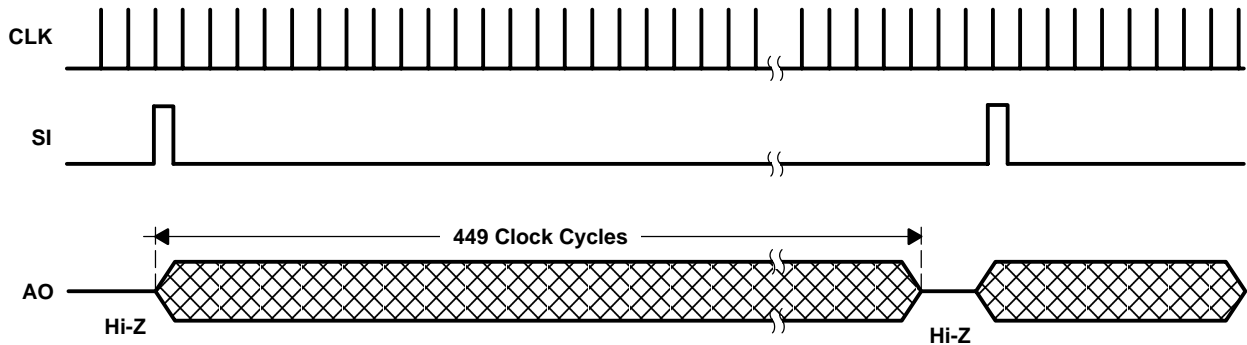
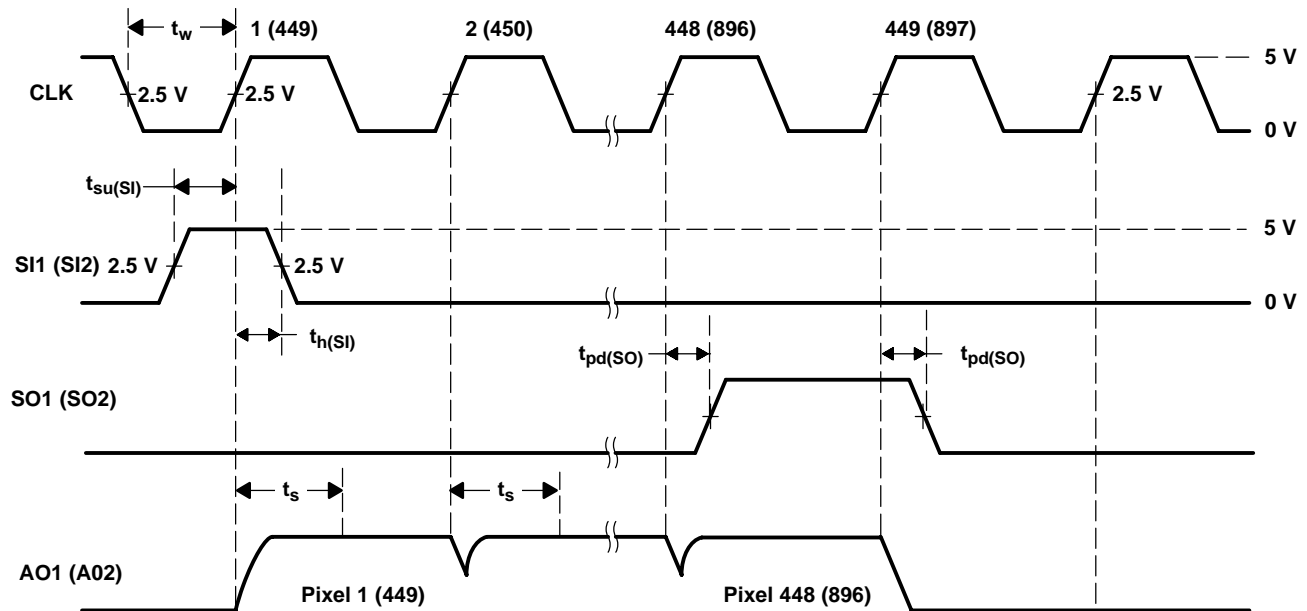

Figure 1. Timing Waveforms (each section)
Figure 2. Operational Waveforms (each section)
The output and reset of the integrators is controlled by two 448-bit shift registers and reset logic. A 448-pixel output cycle is initiated by clocking in a logic 1 into the SI input of a section for one positive going clock edge (see Figures 1 and 2)†. The two 448-pixel sections may be operated independently using a single clock input or connected in series to form a 896-pixel array. Each section has an independent output (AO), which may be connected together for the 896-pixel function.
Recommended Operating Conditions (see Figure 1 and Figure 2)
Timing Requirements (see Figure 1 and Figure 2)
Dynamic Characteristics over recommended ranges of supply voltage and operating free-air temperature (see Figure 2)